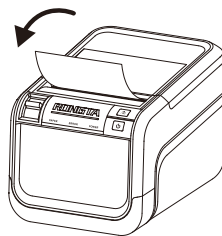

Figure 8
- 4) Close the upper cover of the printer and gently press down until the upper cover clicks to lock. (As shown in Figure 8 below)